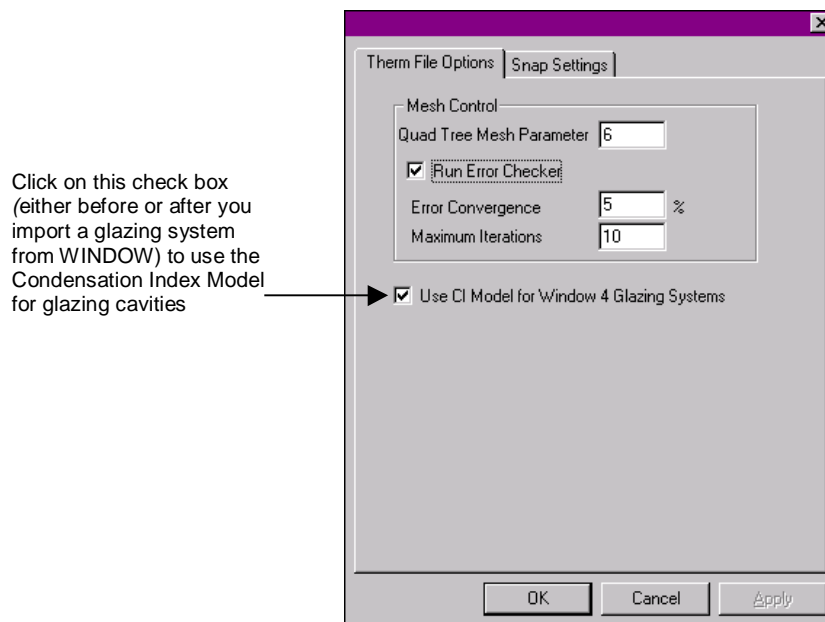

Figure 5-41. Check box for turning on the Condensation Index feature for glazing cavities
- *Turn it on for all imported glazing systems:* By checking the **Use CI Model for Window 4 Glazing Systems** checkbox in the **Therm File Options** choice of the **Options** menu, as shown in Figure 5-41, you set this option for all glazing systems that are imported into THERM.